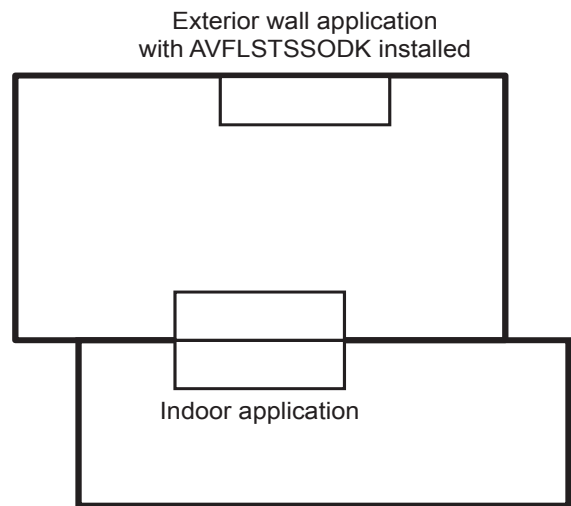
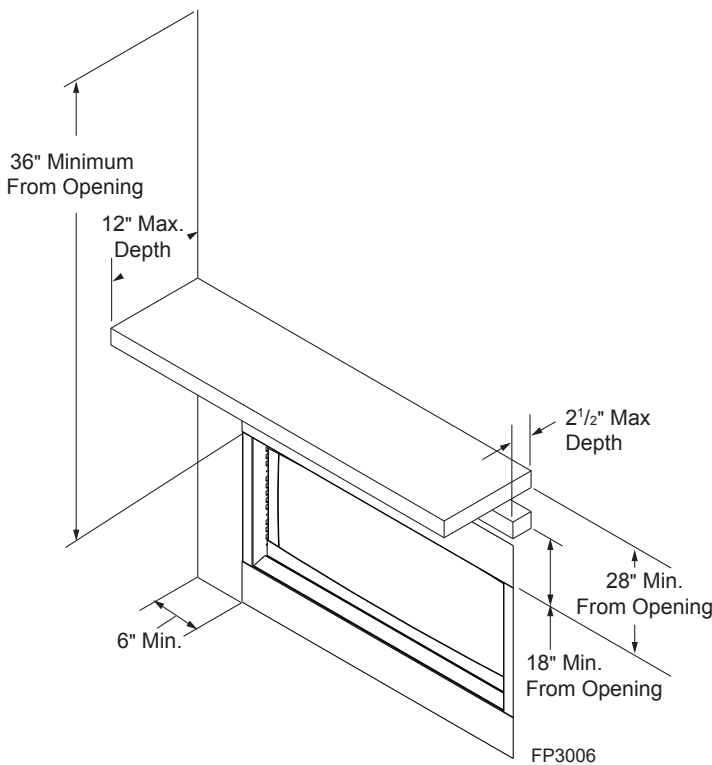

Figure 5. Possible Fireplace Locations
Figure 6. Sidewall and Ceiling Clearances
1. Position fireplace in desired location. Refer to the Fireplace and Framing Dimensions (page 7, Figures 2 and 3,) Fireplace Location (page 9, Figure 5) and Clearances and Height Requirements (page 10, Figures 6 and 7.)
- Minimize modifications to existing construction. Refer to Figure 5 below for location suggestions.
Ensure that minimum clearances shown in Figures 6 and 7 are maintained. Left and right clearances are determined when facing the front of the firebox.
Sidewall Clearances — The clearance from the inside of the appliance to any combustible adjacent wall should not be less than 6". Figure 6
Ceiling Clearance — The ceiling must be at least 36" from the firebox opening. Figure 6
The dimensions shown in Figures 6 and 7 are minimum clearances to maintain when installing this heater. Left and right clearances are determined when facing the front of the heater.
Mantel clearances — Must meet the clearance requirements detailed in Figures 6 and 7.